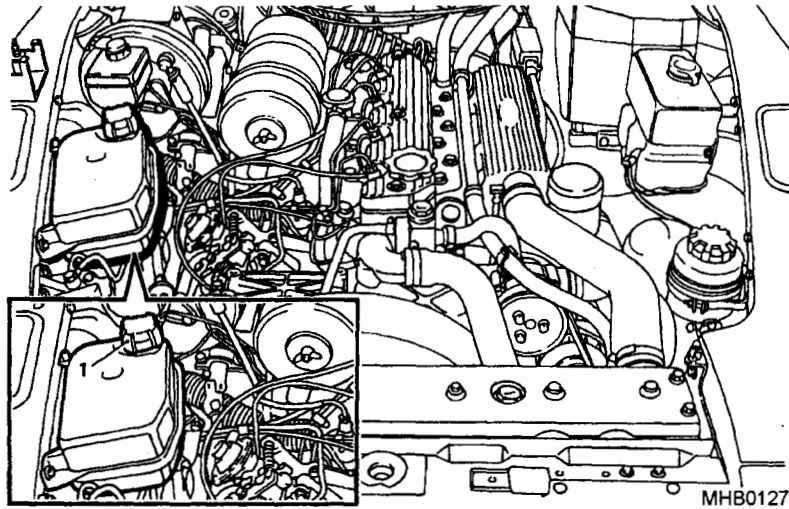

Fig 46 Expansion tank
50.1 When removing the filler cap (Fig 46 (1)) proceed as follows: